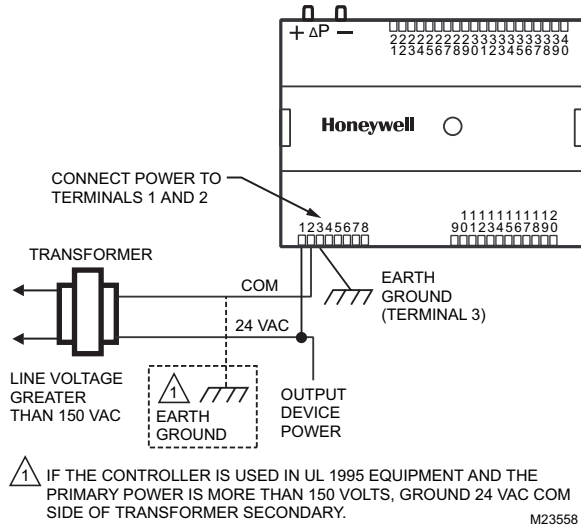

Fig. 10. Transformer power wiring details for one controller used in UL 1995 equipment (U.S. only).
- If a controller is used on Heating and Cooling Equipment (UL 1995, U.S. only) and transformer primary power is more than 150 volts, connect the transformer secondary common to earth ground. See Fig. 10 on page 10.
- See Fig. 10 on page 10 for controller power wiring used in UL 1995 equipment (U.S. only).
If the controller is used on **Heating and Cooling Equipment (UL 1995, U.S. only)** and the transformer primary power is more than 150 volts, connect terminal 2, (the 24 Vac common (24 VAC COM) terminal) to earth ground, see Fig. 10. For these applications, only one controller can be powered by each transformer.